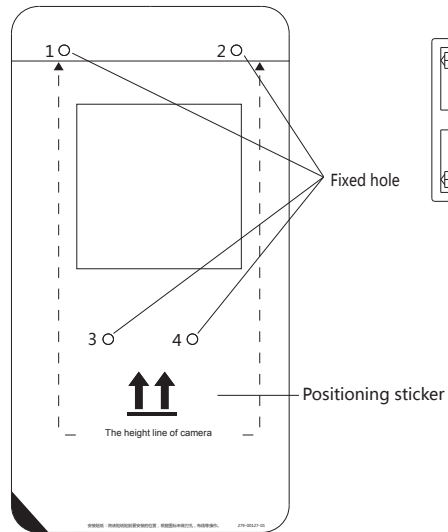

Figure 1
2. Compare the positions of the four fixed holes (1, 2, 3, 4 fixing holes as shown in Figure 1), opening a hole in the wall (recommended aperture 7mm, depth 35mm), Insert the plastic expansion rubber plug into the hole to remove the positioning sticker.